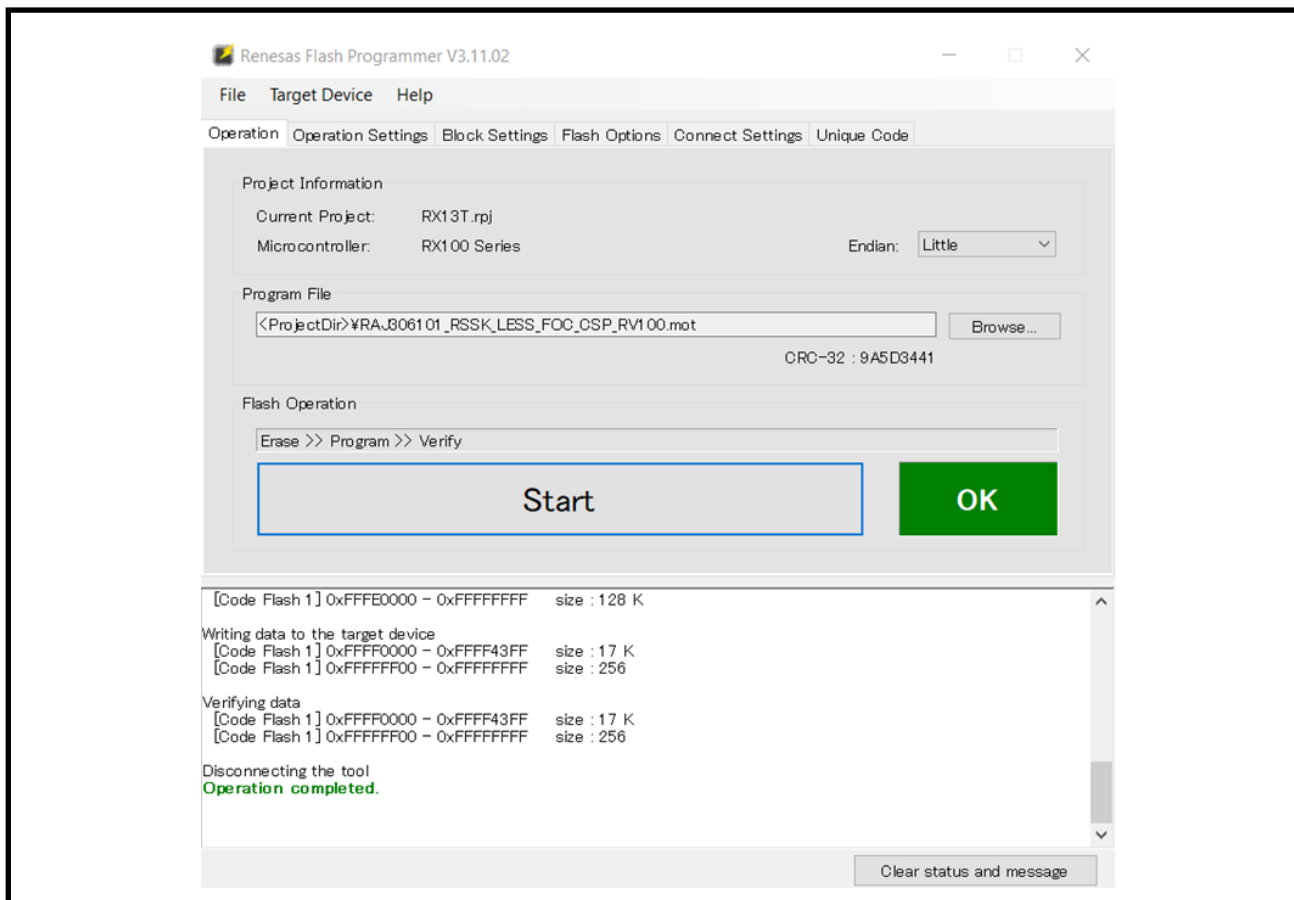
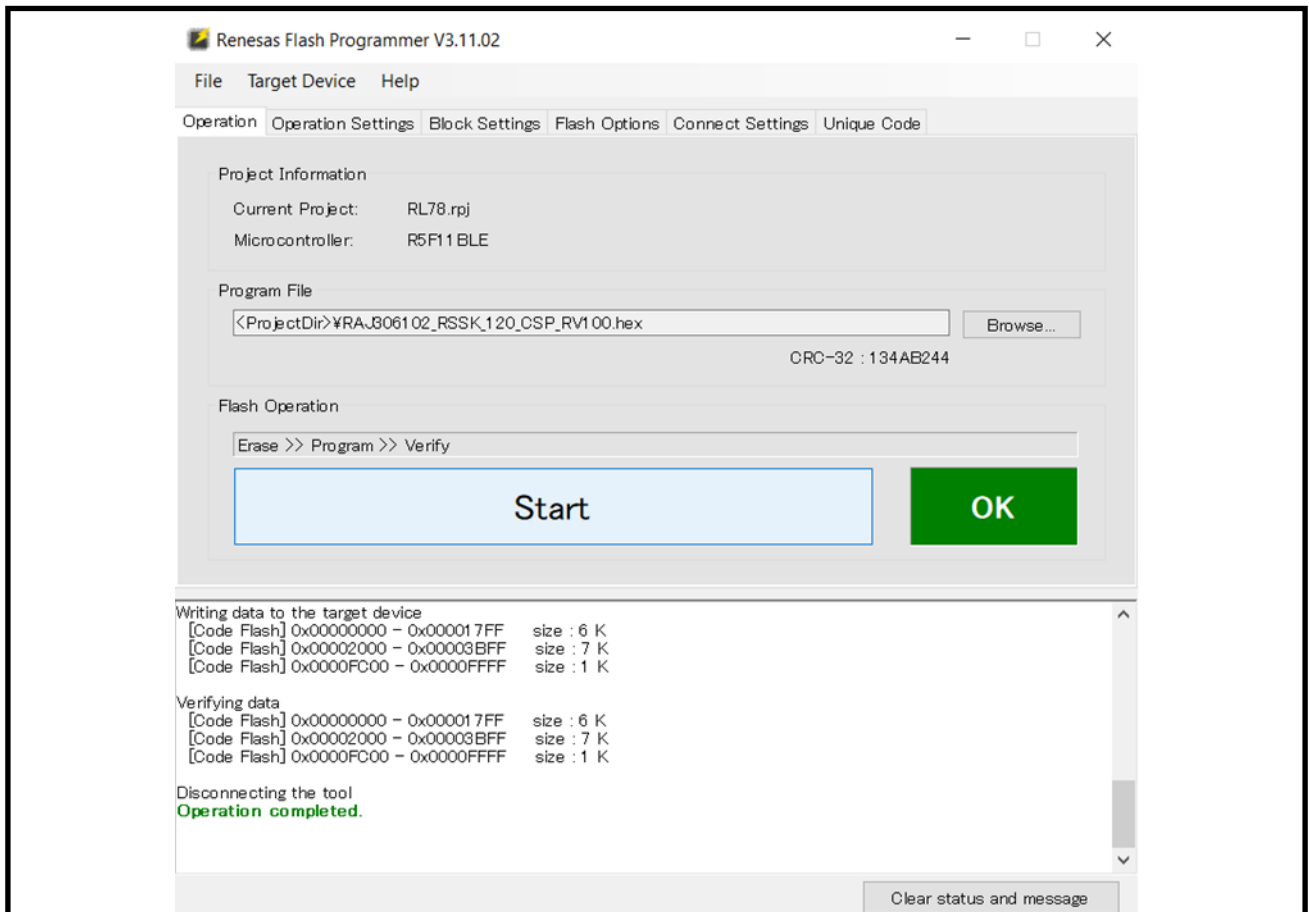

Figure 5-6 Firmware Write (RX13T)
Figure 5-8 Firmware Write (RL78/G1F)
3. Select HEX file, then click "Start" in reference to **Figure 5-6** or **Figure 5-8** to write firmware.